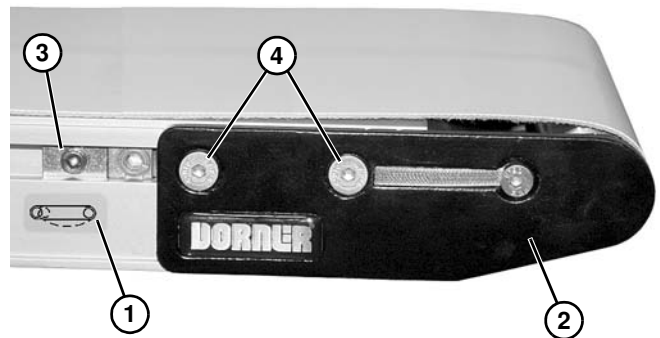

Figure 6
2. On tension end of the conveyor, identified with  a label (**Figure 6, item 1**), push in headplate assembly (**Figure 6, item 2**):
- a. On both sides of conveyor, loosen and move cam tracking assemblies (**Figure 6, item 3**) (if equipped) away from headplates.
- b. Loosen fastening screws (**Figure 6, item 4**) and push headplate assembly inward.